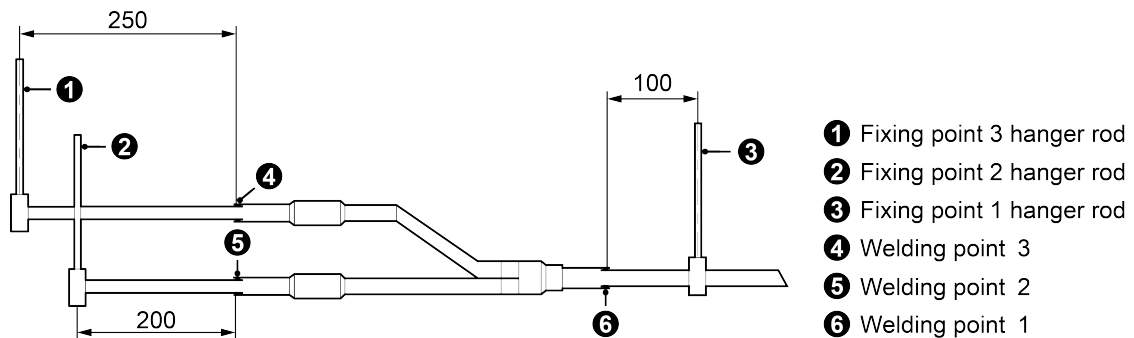

Fig.4.2.11
- (3) There must be three fixing point for both horizontal and vertical installation of the Y-type manifold. See Fig.4.2.11.